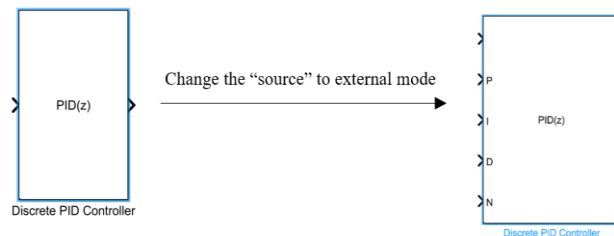

Figure 5: Discrete PID Controller block changing mode.
- A. In the case of using the “Discrete PID Controller” block, you need to change the block’s mode to external mode to enable manual adjustment of the P, I, and D factors, as shown in Figure 5.